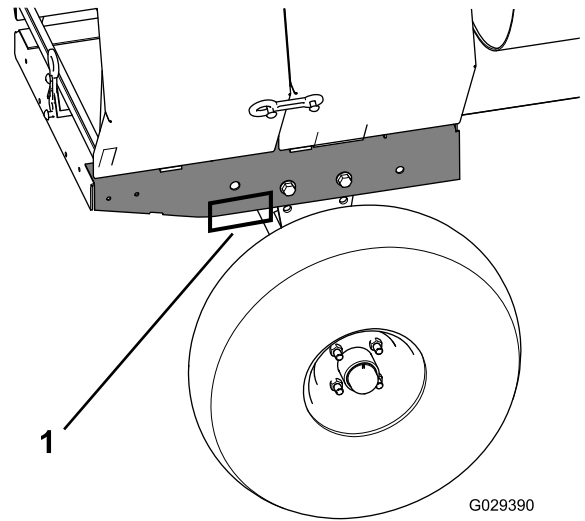

Figure 21
6. Use a jack stand at each support point on the rear frame extension (Figure 21).